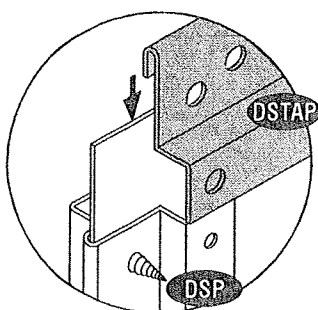

Fig.1
4. Assemble the Door panel strip top (**DSTAP**) with Door panel. Make sure the Door panel top edge to be inserted into the (**DSTAP**). See fig. 1.